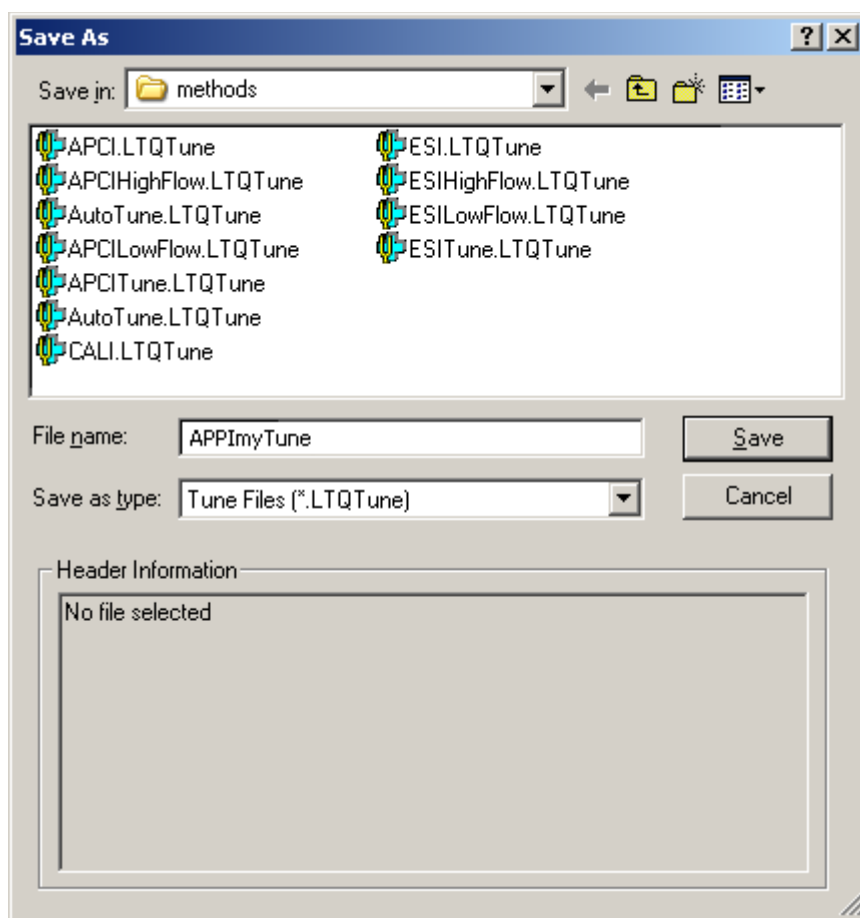

Figure 33. Save As dialog box, showing files in the folder *C:\Xcalibur\methods*
1. Choose **File > Save As** to display the Save As dialog box. Figure 33.